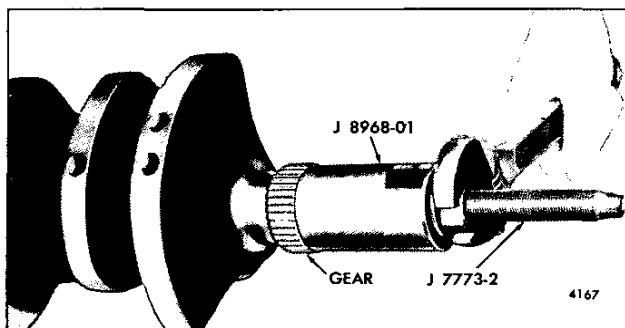

Fig. 8 - Installing Oil Pump Drive Gear Using Tools J 8968-01 and J 7773-2
2. Position the drive gear installer J 8968-01 over the end of the crankshaft and against the drive gear and force the gear in place (Fig. 8). When the end of the bore in the tool contacts the end of the crankshaft, the drive gear is correctly positioned (2.680" from the front end of the crankshaft to the forward face of the gear).